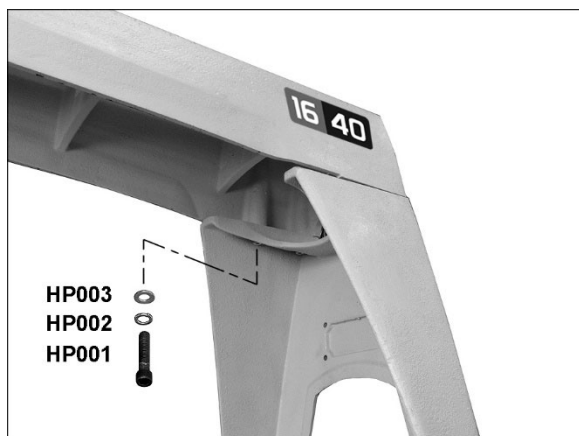

Figure 5-3: installing legs
2. Position lathe onto legs and secure with screws and washers (HP1/2/3, Figure 5-3) using 6mm hex key.
4. Install legs with screws and washers (HP1/2/3, Figure 5-3) using 6mm hex key. Tighten screws firmly.